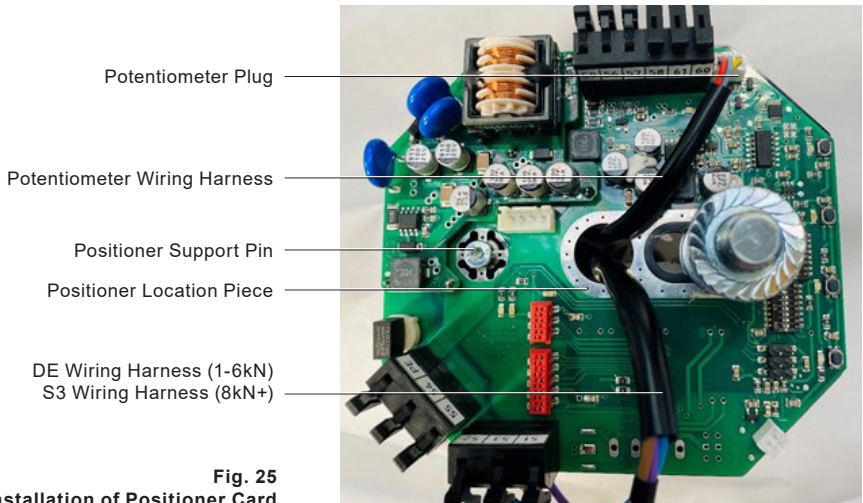
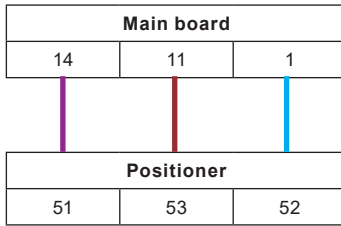
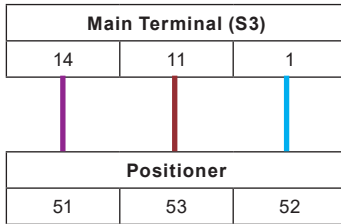

Fig. 25
Fig. 26 Positioner Installation Terminal Diagram (1 – 6 kN)
Fig. 27 Positioner Installation Terminal Diagram (8 kN+)
- 1 – 6 kN: Connect the potentiometer plug to the potentiometer socket on the positioner card referring to Figure 25 "Installation of Positioner Card" for product orientation. The potentiometer wiring harness should be fed through the center of the positioner card as shown
- 1 - 6 kN: Connect the DE wiring harness (orientation shown in Figure 25) as indicated in Figure 26 "Positioner Installation Terminal Diagram (1 - 6 kN)"
- 8 kN+: Connect the cores of the potentiometer wiring harness to the main terminal rail (Figure 27), and connect the potentiometer plug to the potentiometer socket on the positioner card referring to Figure 25 "Installation of Positioner Card" for product orientation. The potentiometer wiring harness should be fed through the center of the positioner card as shown
- 8 kN+: Connect the DE wiring harness as indicated in Figure 27 "Positioner Installation Terminal Diagram (8+ kN)"